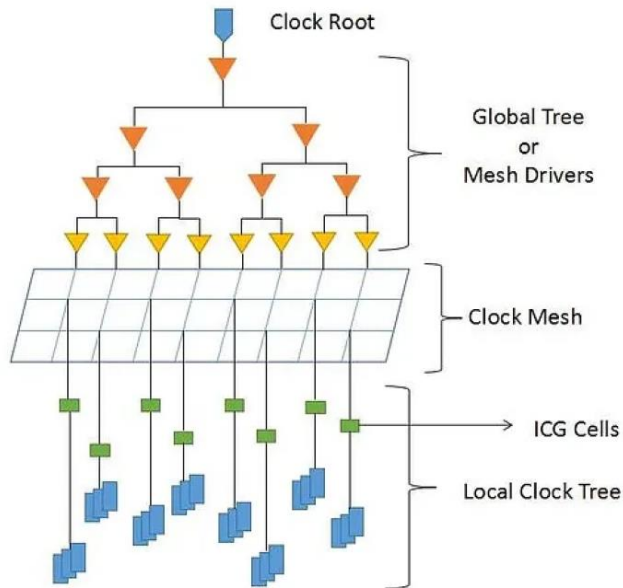

Figure 1 : Clock Mesh Structure
**Clock mesh:** Clock mesh structure can be divided into three sections namely - Global tree or Mesh drivers, Clock mesh network, and Local tree. An example of clock mesh is shown in figure 1. In clock mesh structure, clock path is common till global tree thus making this structure more robust against on-chip variations.